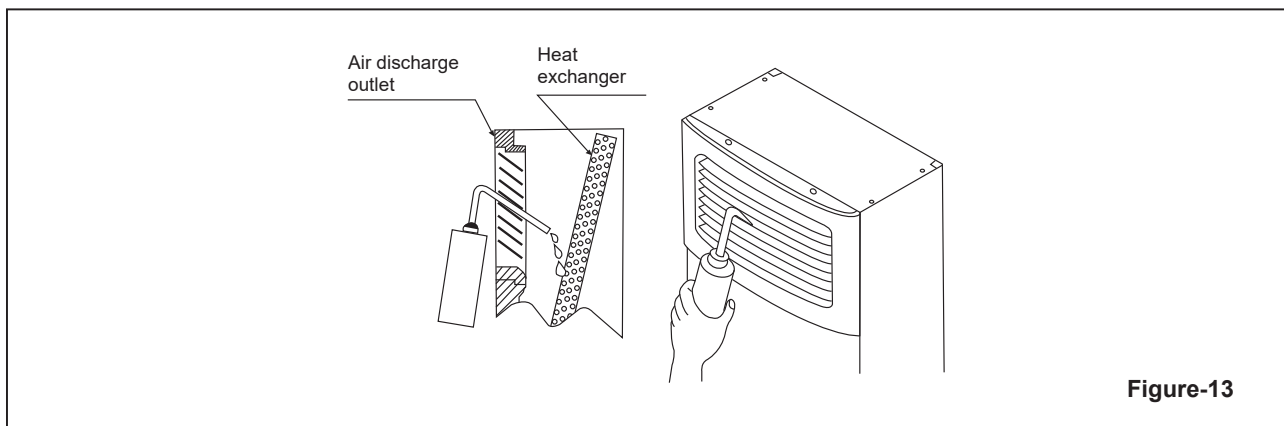

Figure-13
- Carefully pour approximately 1,000cc of water through the air discharge outlet so that it falls directly onto the heat exchanger at an angle without splashing. (Refer to Figure-13).